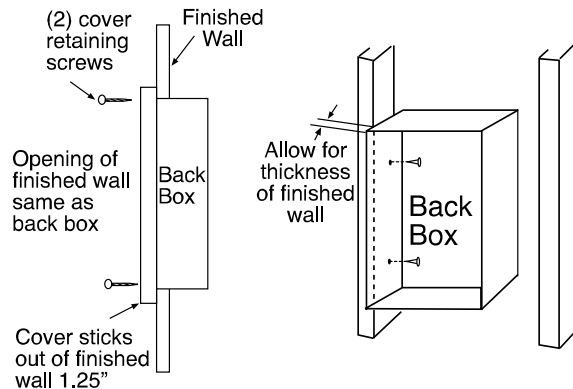

Figure 2
1. Determine which side of the back box is to be mounted against a stud or ceiling joist. (see Figure 2). Allow for the thickness of the finished surface when installing the back box. The edge of the back box must be installed flush with the finished surface. Markings on the side of the back box for 1/2" or 5/8" finishing wall are provided .
3. Position the back box on the stud or joist location desired and secure using two nails or screws as shown in figure 2.
NOTE B: Lead holes for a #8 sheet metal screw have been provided in the sides of the back box. (See Figure 2).
1. Determine which side of the back box is to be mounted against a wall stud or ceiling joist. See Figure 2.